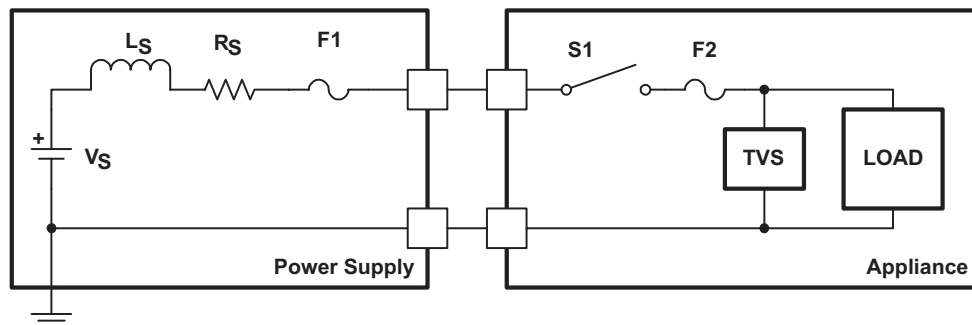

Figure 14. Load Protection Using Transient Voltage Suppressor Clamps
- Power switch contact bounce (causes power supply/distribution inductive kick), (See Figure 14).
Many electronic appliances use a transient voltage suppressor (TVS) for overvoltage protection as shown in Figure 14. The TVS is typically a metal-oxide varistor (MOV) or Transzorb. The former is a nonlinear resistor with a soft turnon characteristic whereas the latter is a large junction Zener diode with a very sharp turnon characteristic. These devices have high pulse-power capability and pico-second response time. A TVS clamps the load voltage to a safe level so the load operates uninterrupted in the presence of power supply output-voltage spikes. But in the event of a voltage surge, fuse F2 blows and must be replaced to restore operation.